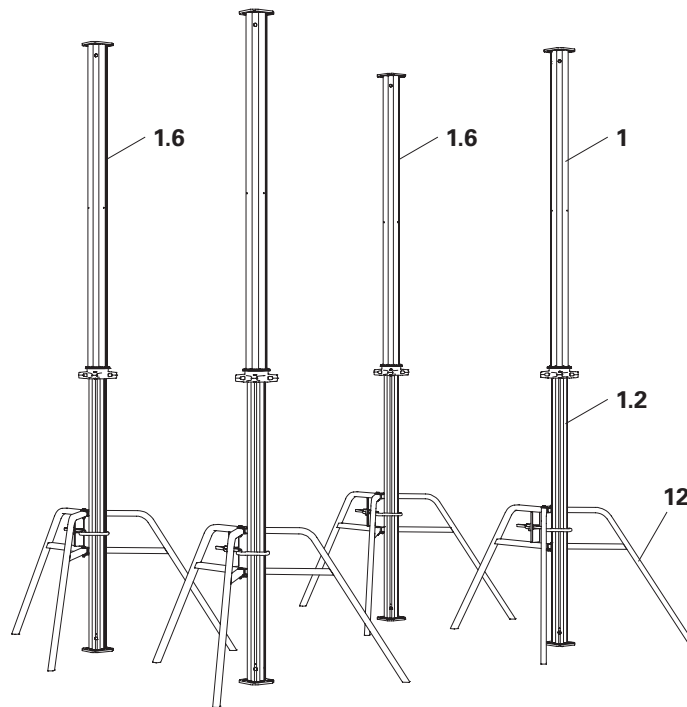
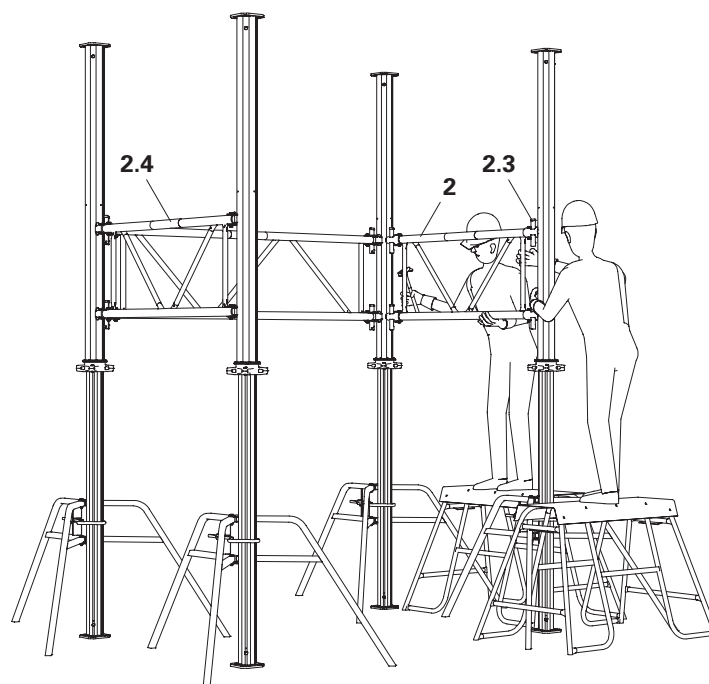

Fig. A4.01
Fig. A4.02
1. Set up the MULTIPROP MP (1):
- Use the Universal Tripod Ø57-120 mm (12) as an assembly aid.
- Set up the MULTIPROP MP (1) according to the dimension between the Frames MP MRK (2) to be installed.
- The measuring scale (1.6) is pointing inwards. (Fig. A4.01)
2. Install Frames MP MRK (2), see Section "A3 Horizontal assembly" on page 24:
- Place Frames MP MRK (2) at the designated positions, see plan or type test.
- Securely fix the wedges (2.3) with a hammer blow from top to bottom. (Fig. A4.02)